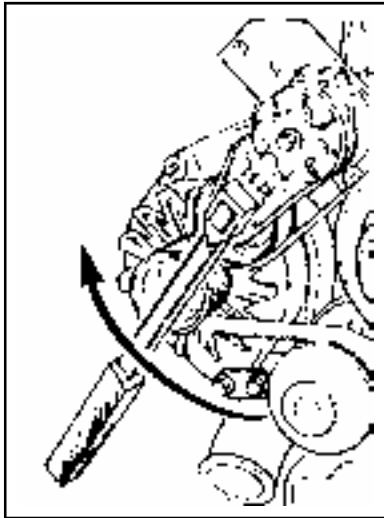
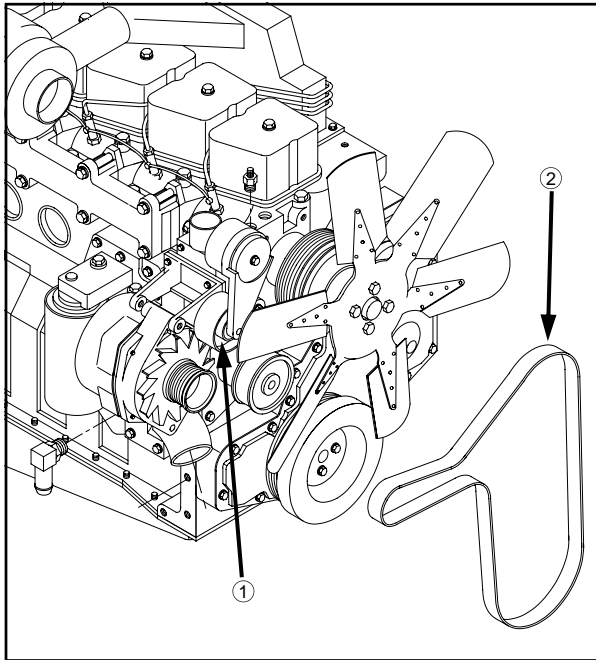

FIG 8.41
FIG 8.42
**REMOVAL** - Insert a 3/8 inch square ratchet drive (fig. 8.41) into the belt tensioner (fig. 8.42, item 1) and lift upward to remove the belt (fig. 8.42, item 2).